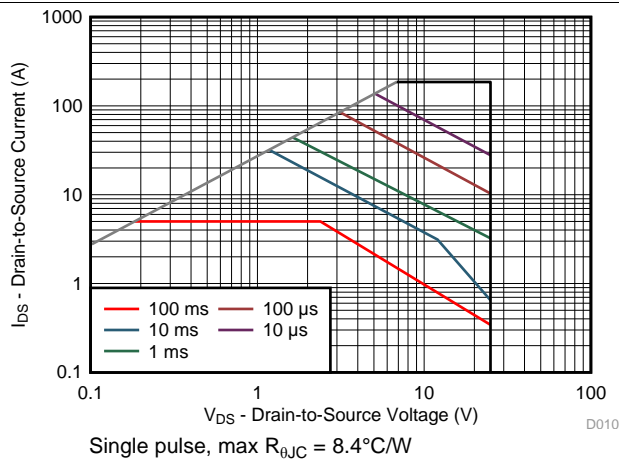

Figure 10. Maximum Safe Operating Area
• Changed the safe operating area in <a href="#">Figure 10</a> to reflect measured data.....	5